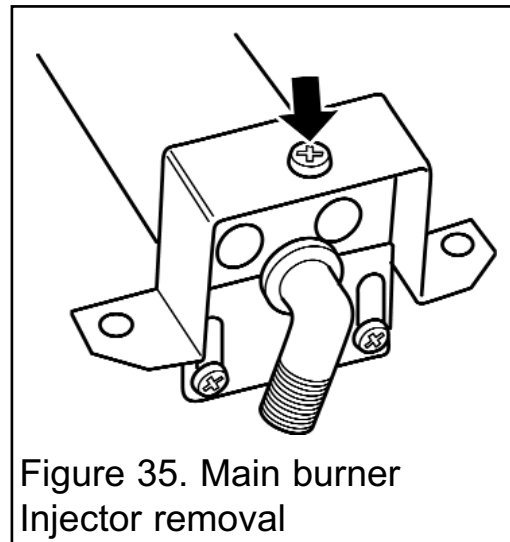

Figure 35. Main burner Injector removal
(See figure 35).
2. Remove the burner clamping screw (See figure 35)